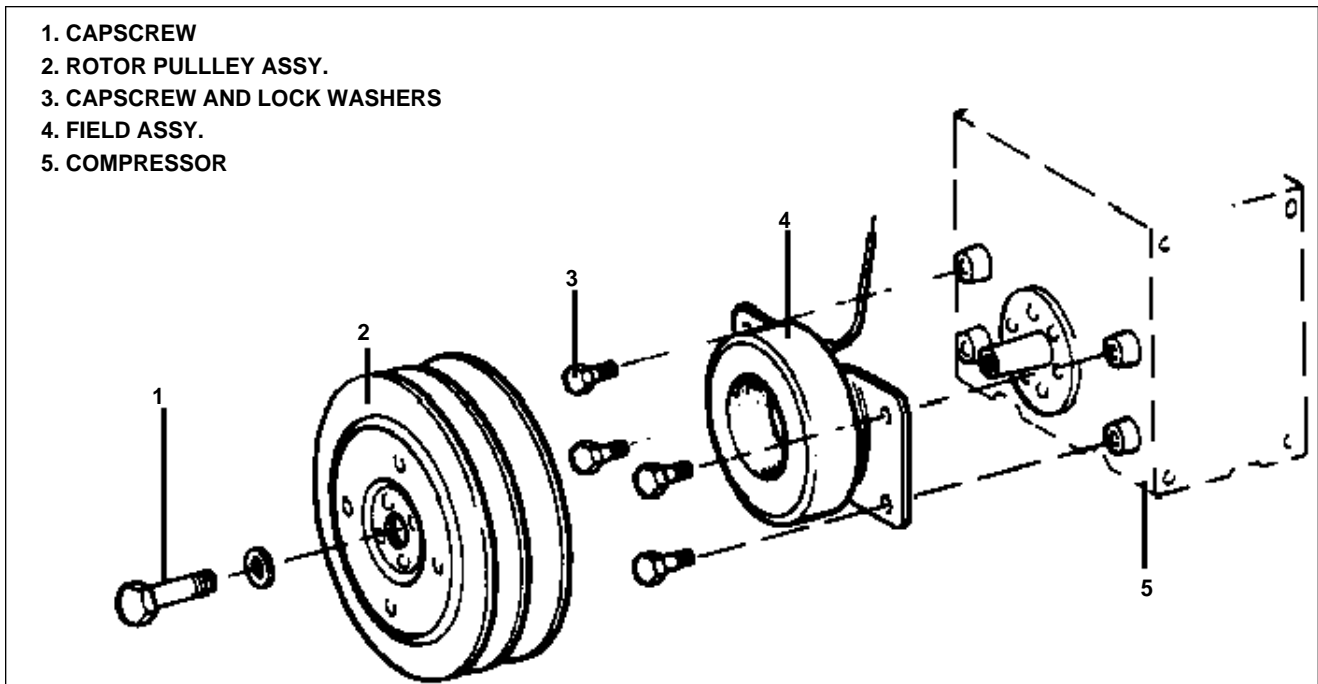

Figure 21-14. Magnetic Clutch
a. Magnetic Clutch Removal (Refer to figure 21-14.)
b. Magnetic Clutch Installation (Refer to figure 21-14.)
- (1) Adjust open limit switch to open condenser door 5.00 ± 0.50 inches measured from leading edge of door to fuselage skin.
- (2) Adjust side push rods so a vertically measured gap of 0.16 inch exists along trailing edge of door the instant forward edge of door is flush with fuselage skin.
- (3) Fully close door and adjust CLOSED limit switch so actuator travels an additional 0.12 inch with door fully closed, (this is necessary to preload mechanism). (Refer to figure 21-14, View A-A.)
- (4) Cycle assembly several times. Verify proper operation without binding.